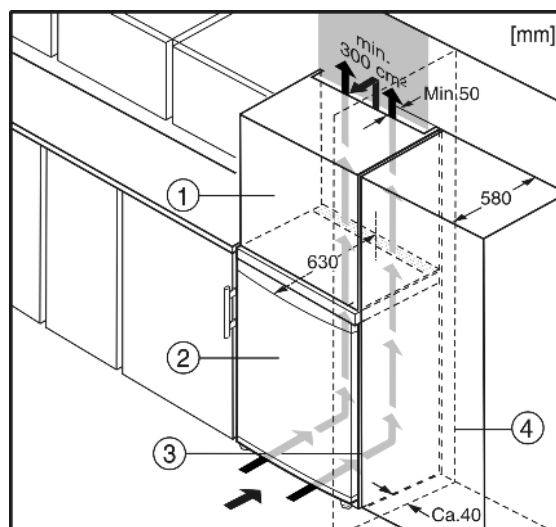

Fig. 6
- (1) Stack cabinet
- (2) Appliance
- (3) Kitchen cabinet
- (4) Wall
The appliance can be inserted into a row of kitchen units. To match the appliance Fig. 6 (2) to the height of the row of units, a suitable stack cabinet Fig. 6 (1) can be fitted above the appliance.\*
When inserting the appliance into a row of kitchen units (max. depth 580 mm), the appliance can be installed directly next to the kitchen unit Fig. 6 (3). The appliance door projects relative to the front of the kitchen unit by 34 mm at the side and by 50 mm in the middle of the appliance. It can be opened and closed perfectly as a result.\*
If the appliance is installed with the hinges next to a wall Fig. 6 (4), the distance between appliance and wall has to be at least 40 mm. This corresponds to the projection of the handle when the door is open.\*